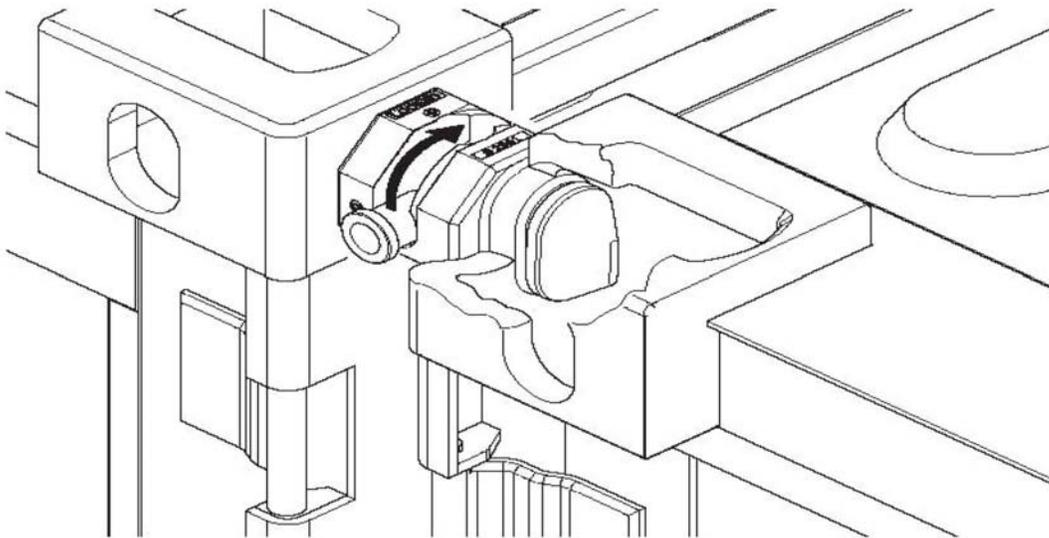

Figure 1-9. Container Connection.
- (12) Using a fork lift, slide the mating container onto the moveable cone of the couplers so the container is flush against the surface of the container coupler bodies. Rotate the container coupler handles as shown in Figure 1-9 into the LOCKED position. Release the handle on all four couplers to secure containers.